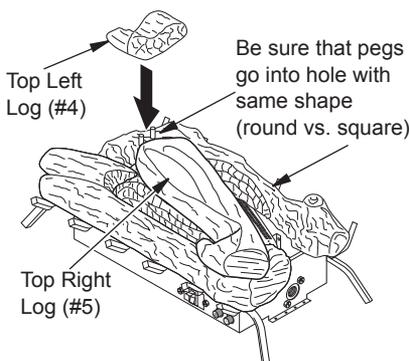

Figure 20 - Installing Top Left Log (#4) and Top Right Log (#5)
- as illustrated in figure 20.